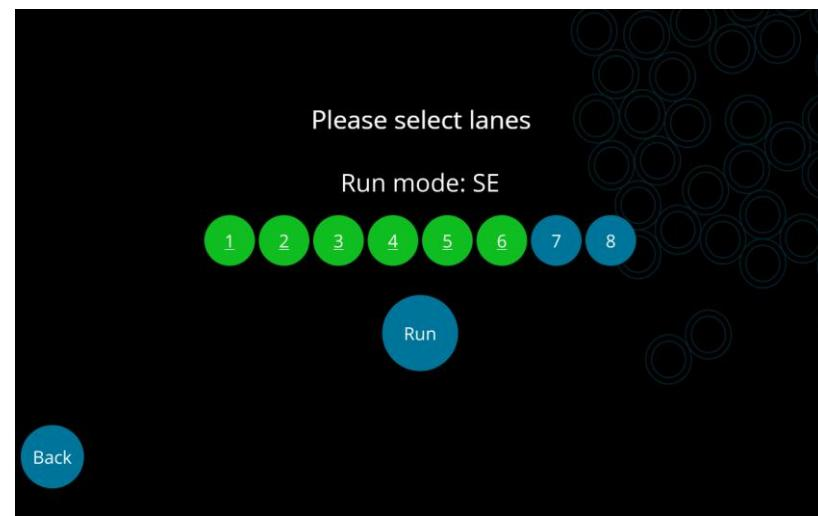

Fig. 5.8. Select the lanes to be used. Green indicates selected lanes corresponding to lanes in the cartridge and blue indicates the lanes not yet selected.
5. The lanes to be processed are selected by pressing the numbers for the corresponding instrument lanes 1–8 on the screen. When selected, the button turns green (Fig. 5.8).